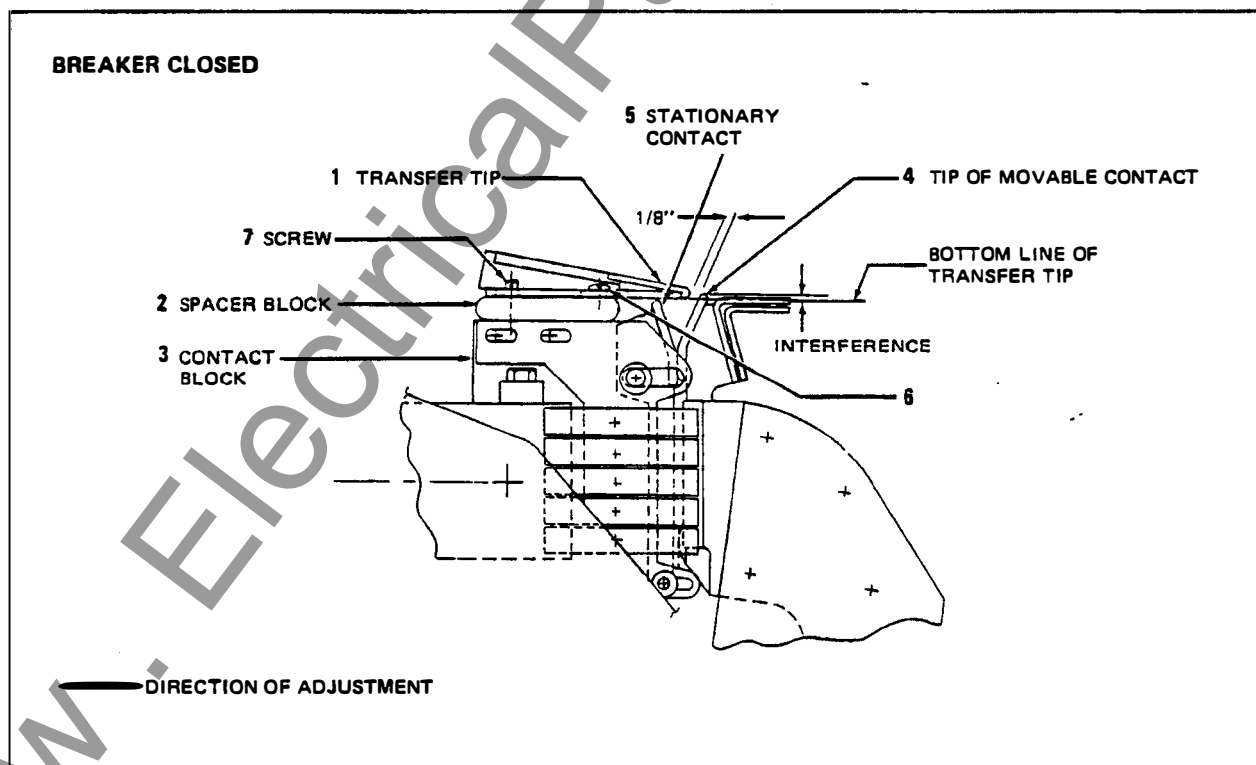

Figure 11D.
Transfer tip adjustment (Figures 11D and 11E) is required if any of the following is performed.
3. Move the transfer tip (1) forward towards the movable contact (4, Figure 11D). If the tip of the movable contact (4) is above the bottom line of the transfer tip (with interference), adjust the transfer tip (1) so that there is 1/8 inch (3.2 mm) clearance between transfer tip (1) and tip of movable contact (4).